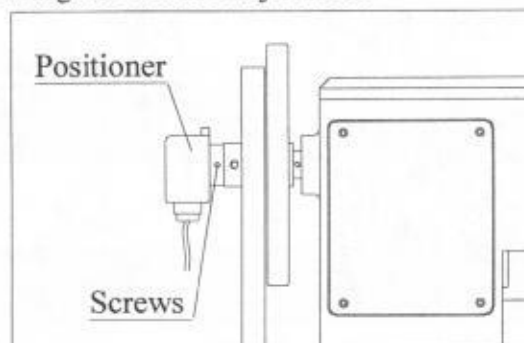

Fig.10
4.5 Adjustment of stopping position (Fig.10)